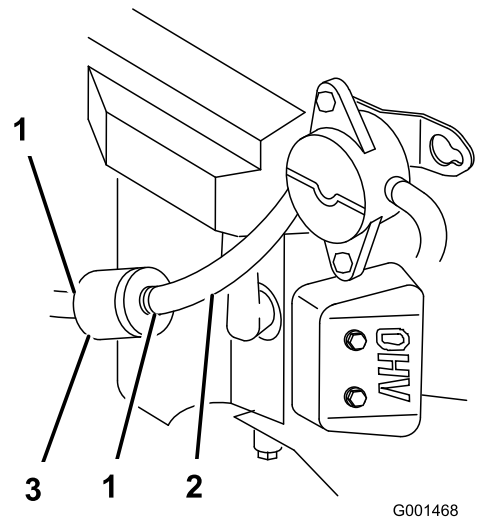

Figure 40
4. Squeeze the ends of the hose clamps together and slide them away from the filter (Figure 40).